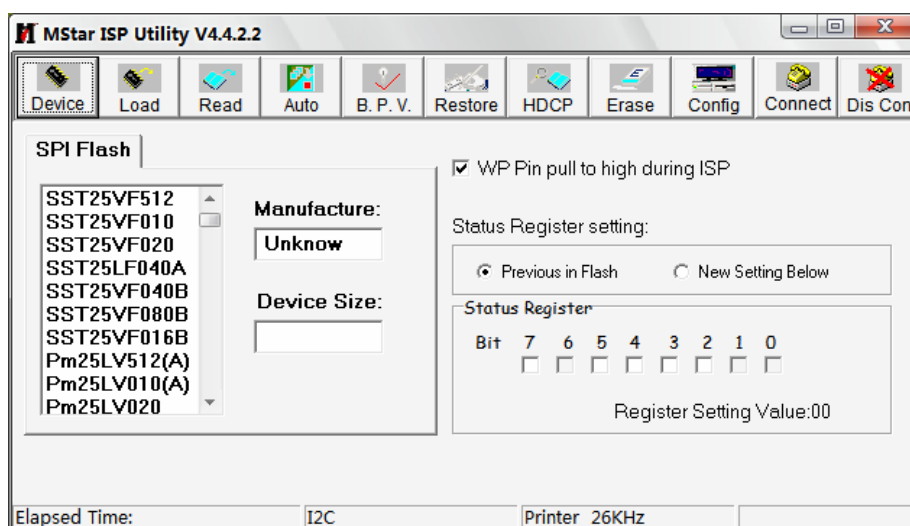

Fig. 2 Write protection setting
2) Use Mstar upgrading instrument (V4.4.2.0 or higher version), enter into menu “Device”, tick off “WP Pin pull to high during ISP” to make sure Flash hardware write protection is removed and erasing process is normal; please refer to Fig.2;